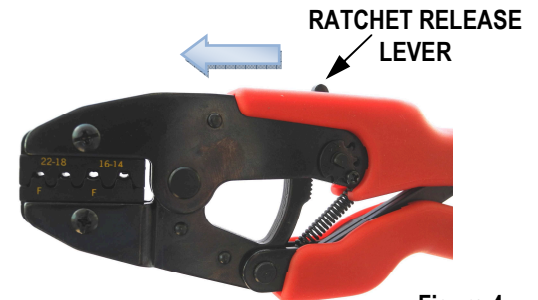

Figure 4
5. While holding the wire in place, slowly close the handles of the tool. If a jam occurs, stop closing the tool and release the anti-backup ratchet located on the top of the tool. Pushing it forward will release the jaws. See Figure 4.
If the tool ever becomes jammed in a partially closed position, **DO NOT force the handles open or closed.** The tool will open by lifting the ratchet release lever. See Figure 4.